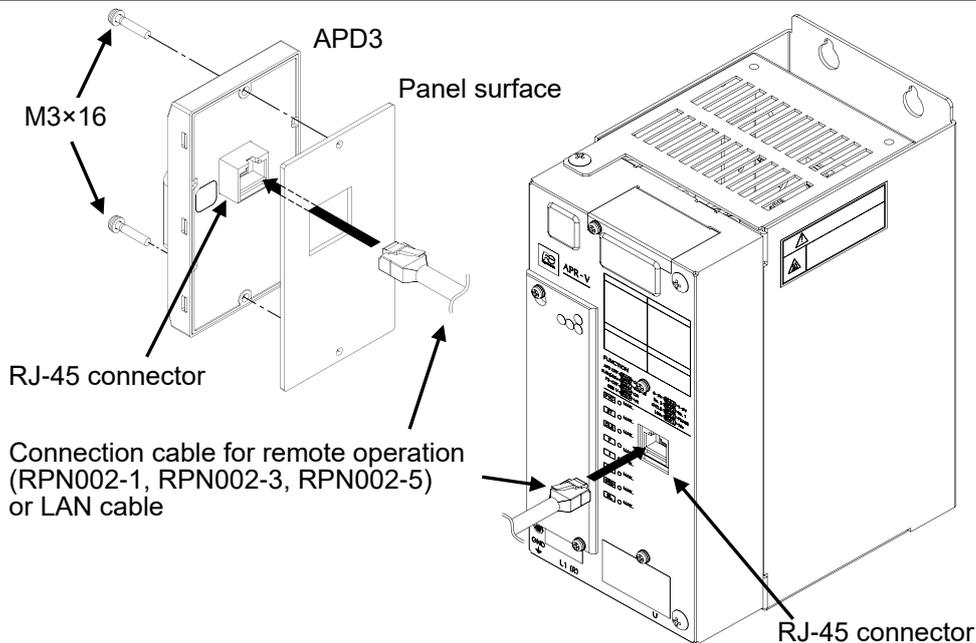

Fig. 3-1. Connecting the APD3 to the APR
- To mount it to a panel (See Fig. 3-1.)